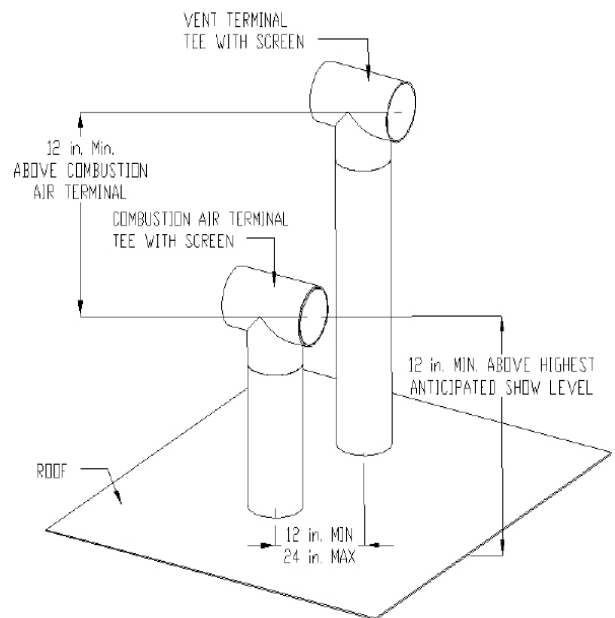

Figure 9: Vertical Termination
- a. For standard horizontal sidewall terminations, see Figure 7 and 8. For vertical roof terminations, see Figure 9 and 10.